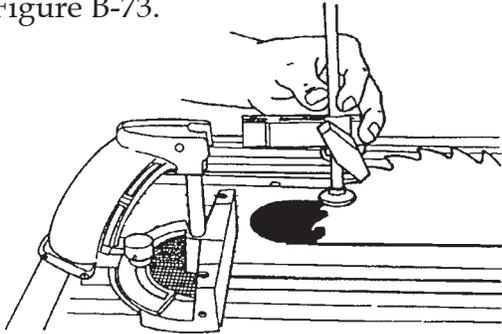

Figure B-73
42. Place the miter gauge in the right miter gauge slot, and use a 5/32" Allen wrench to remove the quick clamp from the safety grip, as shown in Figure B-73.